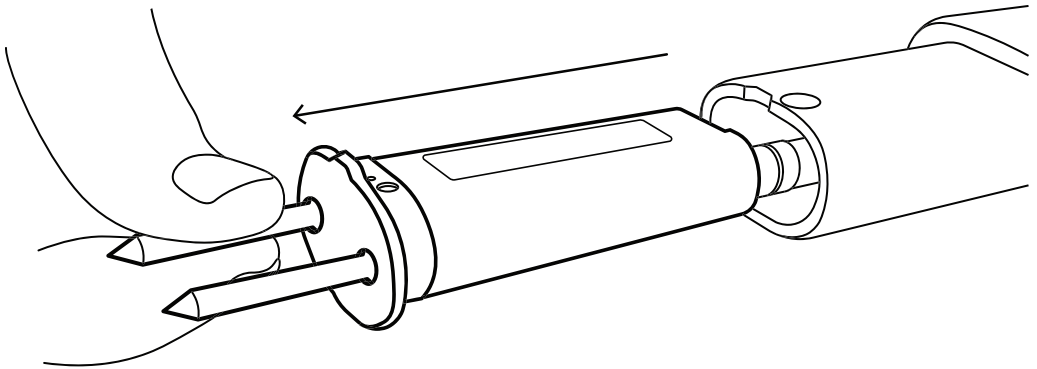

Figure 17 Remove tine module
2. Remove tine module (Figure 17).